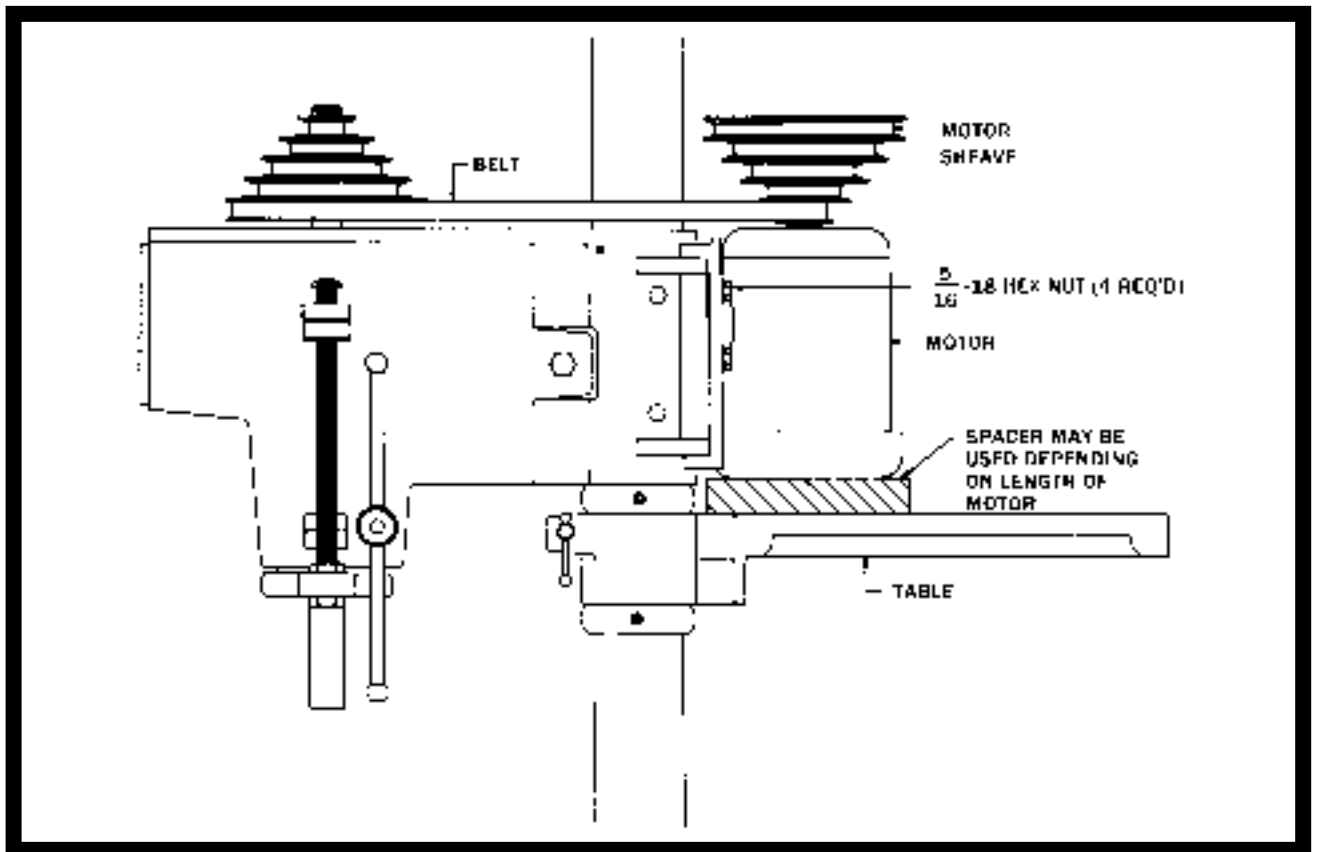

FIGURE 1
- b. Raise drill press table as shown in Fig. 1. Place motor upright on table and install motor to motor mount, using (4) 5/16-18 hex nuts. Align motor and spindle pulley and tighten motor pulley set screws.
- b. Raise drill press table and lock in position (Fig. 1). Place motor on table in upright position and attach motor to motor mount, using (4) 5/16-18 hex nuts.